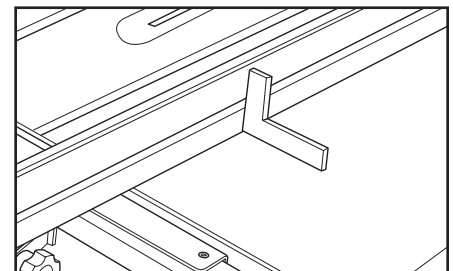

Figure 3
2. Place a square on the table against the fence face. The fence should be  $90^\circ$  to the table. Figure 3.